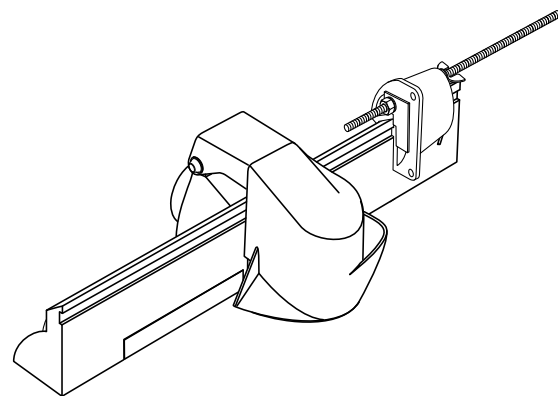

Figure 17
1. Place push shoe assembly onto fence so the slot in the push shoe aligns with rail on fence. See Figure 17.